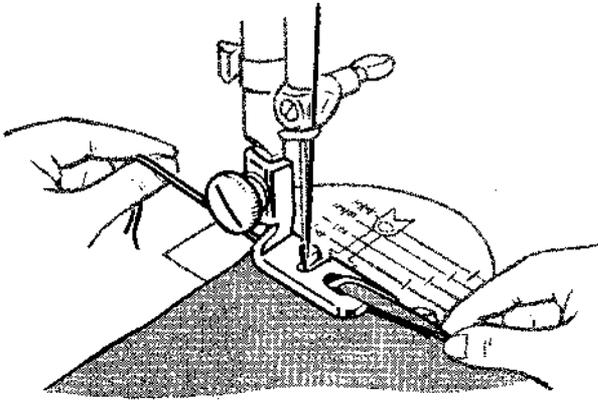

FIG. 87. STARTING A HEM AT THE EDGE.
2. Place the material in the Hemmer at a point just beyond the fold, as shown in Fig. 87.